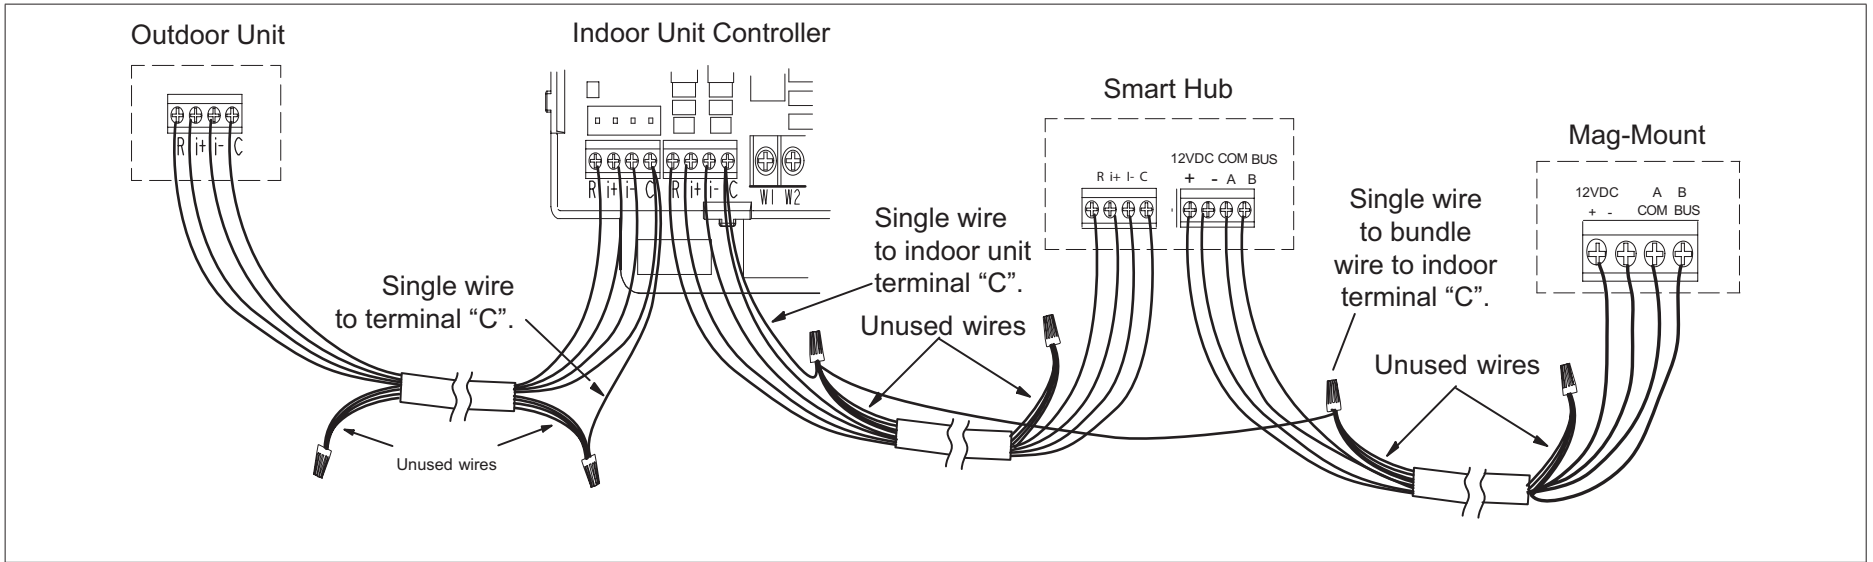

Figure 4. Thermostat Wire Termination in Communicating Systems (Electrical Noise)
- Use wire nuts to bundle the unused wires at each end of the cable. A single wire should then be connected to the indoor unit end of the wire bundle and attached to the "C" terminals as shown in "Figure 4. Thermostat Wire Termination in Communicating Systems (Electrical Noise)".